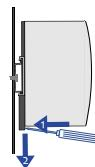

Fig. 1-2: Demounting
- ➐ Insert a screwdriver into the lower tab and press the tab down to unlock, see Fig. 1-2.